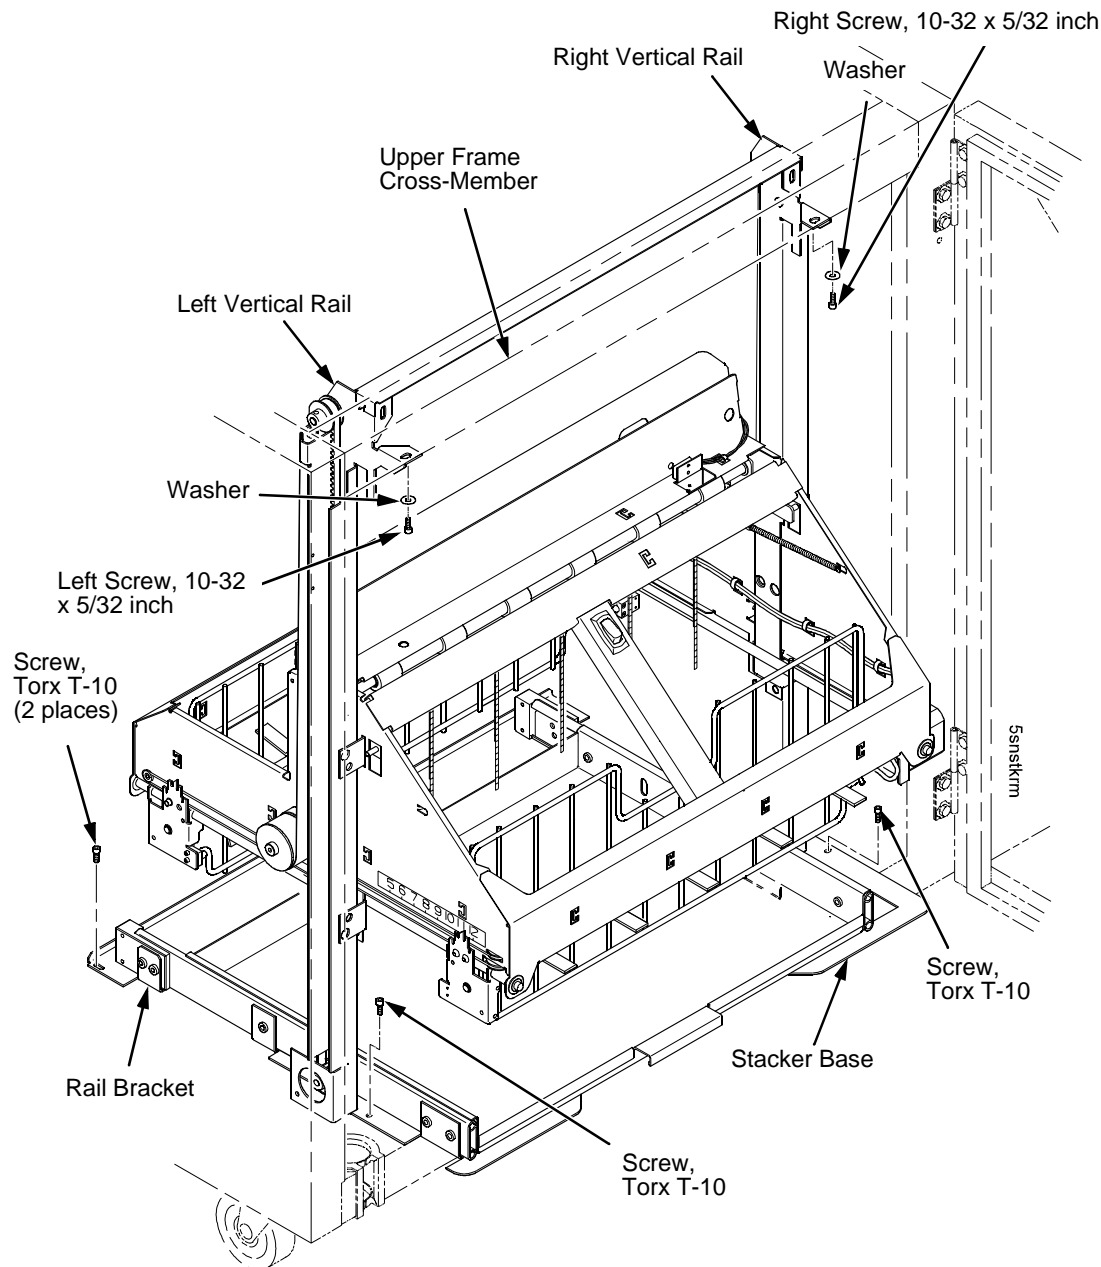

Figure 65. Preparing the Stacker for Removal
6. Remove the two 10-32 x 5/32 inch buttonhead screws and washers securing the vertical rails to the upper frame cross-member at the rear of the cabinet. (Figure 65.)
7. Remove the two Torx T-10 screws securing the stacker base to the cabinet floor. (Figure 65.)
8. Remove the two Torx T-10 screws that secure the rail bracket to the cabinet floor. (Figure 65.)